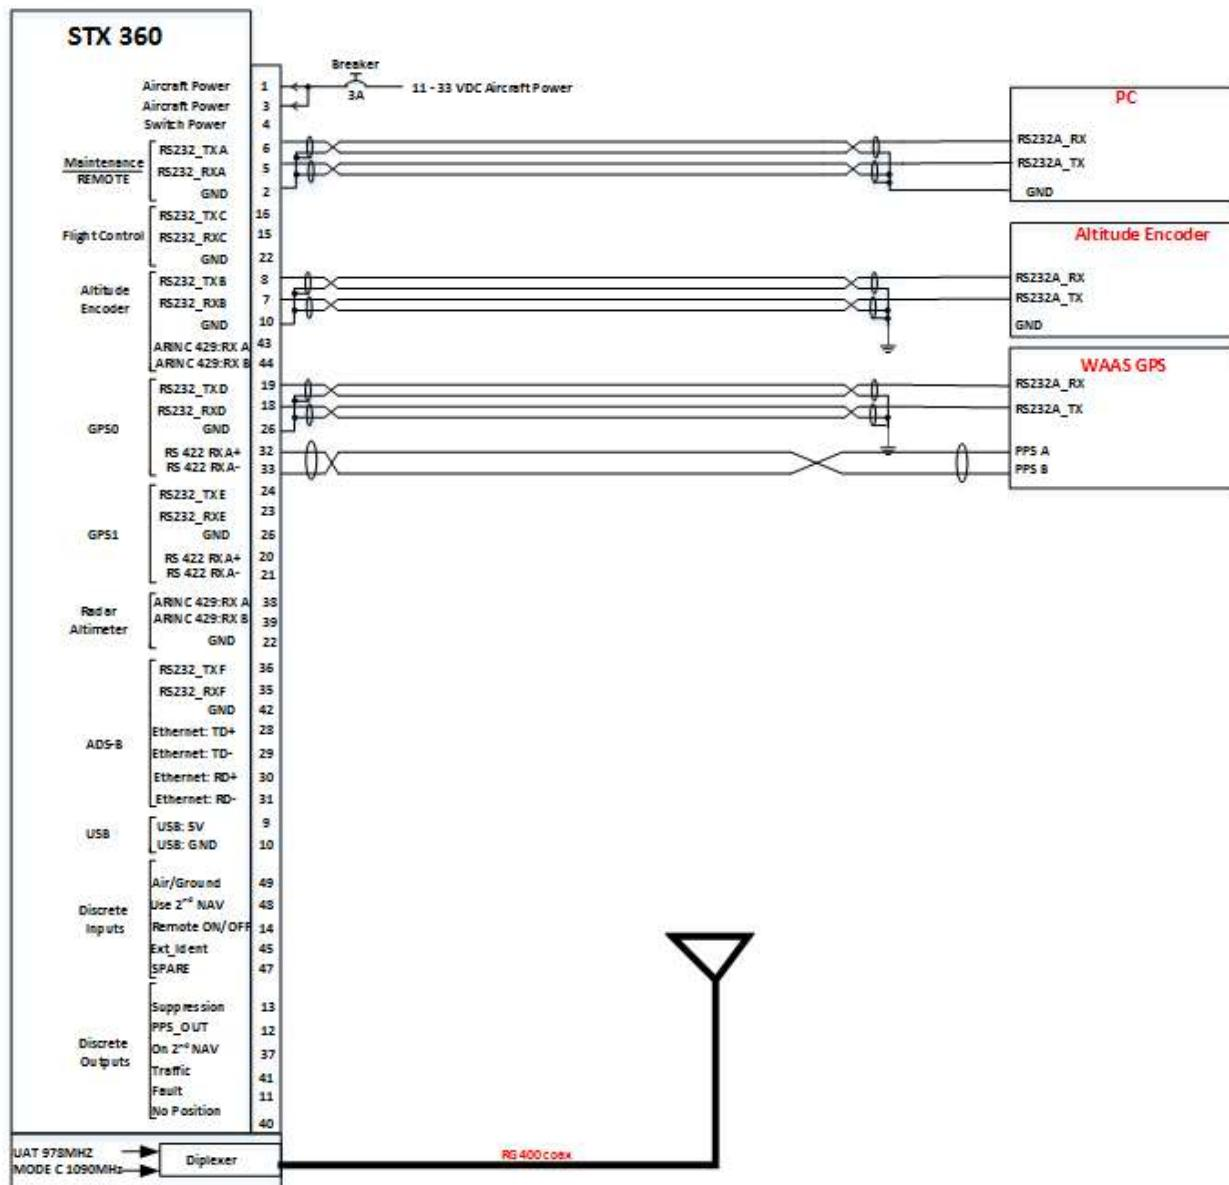

Figure 26: Minimum system setup when using the STX 360 Configuator software
4. Before running the program, make sure to connect the serial port on the PC to the maintenance port on the STX 360. Please see pin out information located in section 3.7.2, section 3.7.3 and figure 26 shows the the minimum interfaces while using the STX 360 Configurator.